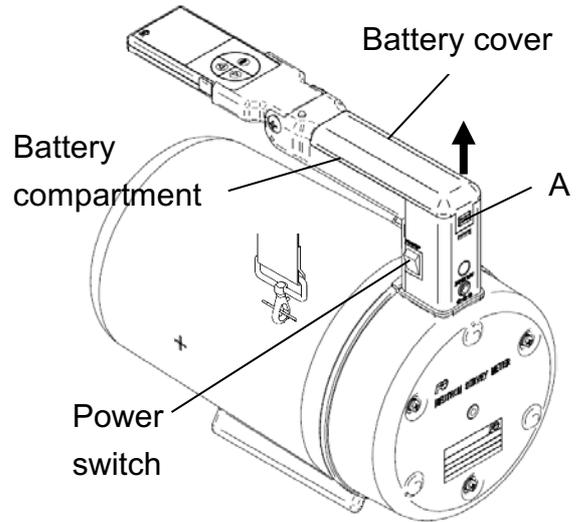

Figure 6-1 Battery removal
- (1) Turn OFF the power switch of the main body.
- (2) Pressing down on point A (shown in Figure 6-1), slide the battery cover upward (in the direction indicated by the arrow) and remove it.